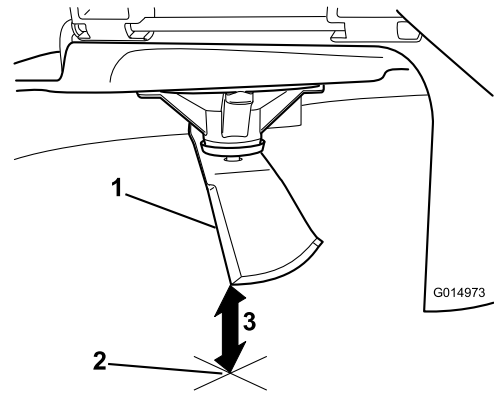

Figure 74
5. Measure from the tip of the blade to the flat surface (Figure 74).